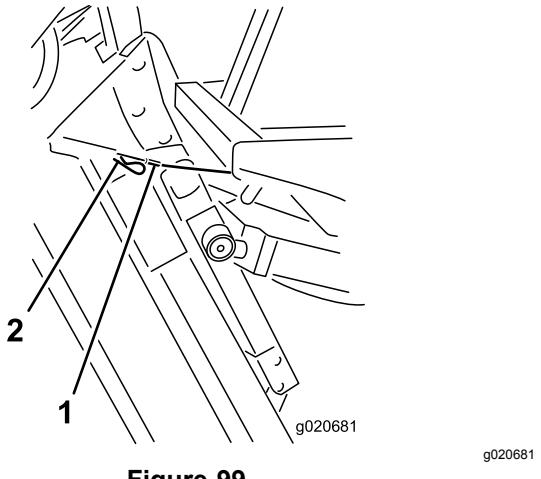

Figure 99
6. Hold the cutting unit upright, fit the cable end over the pin on the cutting unit lift arm, and secure it with the hairpin cotter (Figure 99).